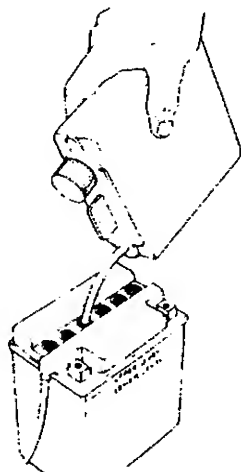

FIGURE 2.
5. Fill each battery cell slowly and carefully to the UPPER LEVEL line marked on battery. See figure 2. Use caution as the acid level will rise rapidly after the bottom of the cell is filled.